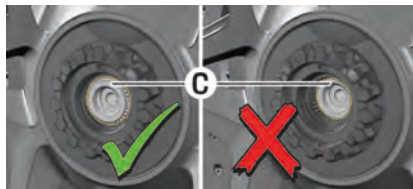

Fig. 209: Check the position of the safety bolt
8. Make sure that safety bolt **C** (Fig. 209) is at the front of the bevel of the tothing.